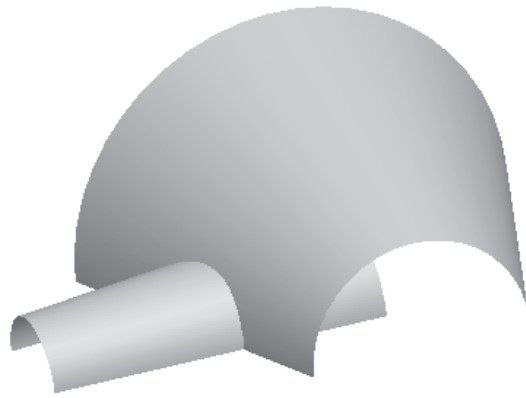

Figure 14-75 Second feature
11. Select the **FRONT** datum plane. Choose **OK** from the **SURFACE** dialog box. The blend surface is extruded up to the selected datum plane, as shown in Figure 14-75.